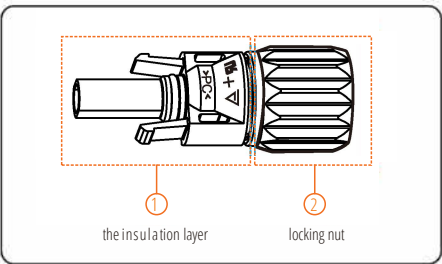
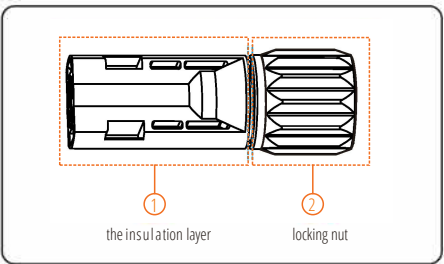

Figure 5.9 Positive connector compositions
Figure 5.10 Negative connector compositions
c. Connectors of PV Strings: Positive and negative DC input connectors are used, as shown in Figure 5.9 and Figure 5.10.